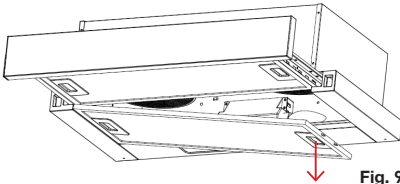

Fig. 9
- Push in the plastic opening latch and take the filters out of their frames (Fig. 9).